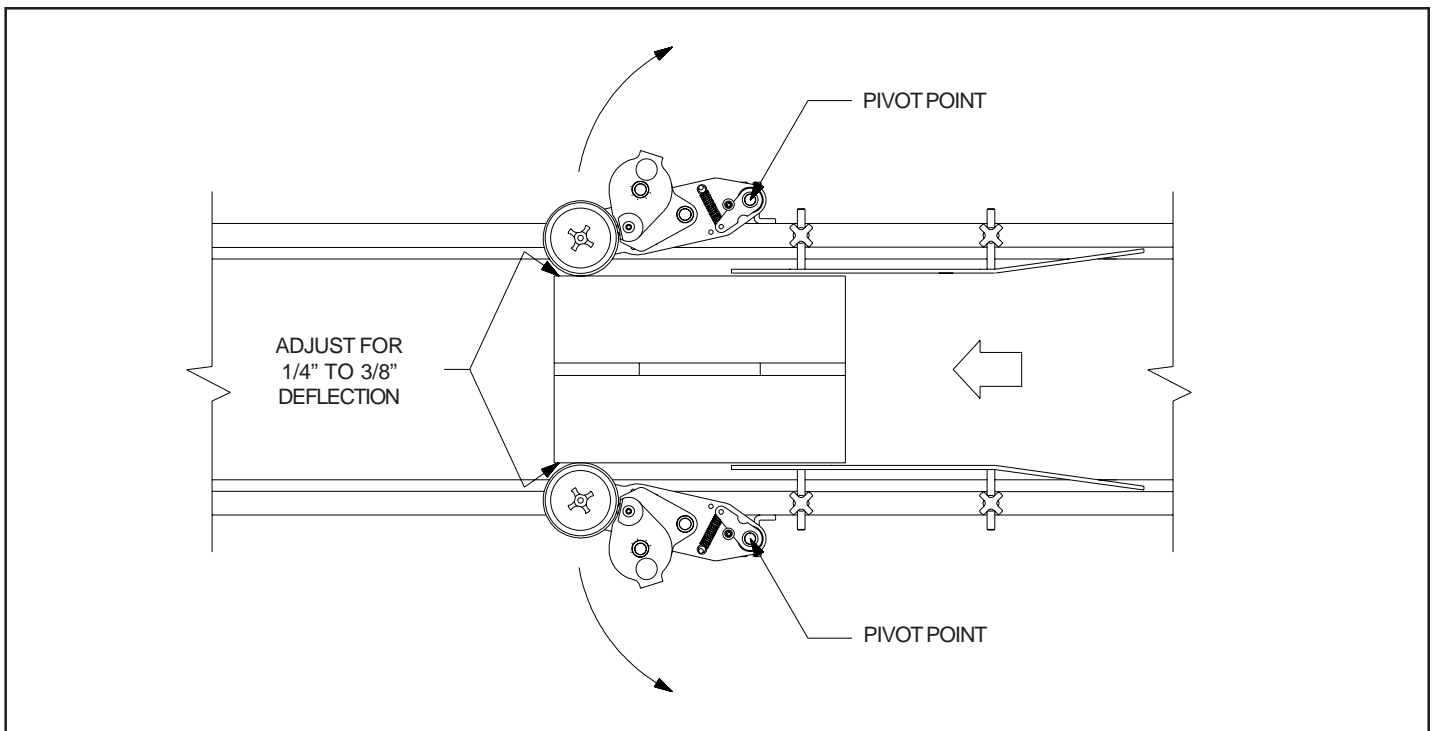

FIGURE 39
- 2 - Check the print drum contact with the cartons while the conveyor is under power and adjust the print drum position to obtain approximately 1/4" - 3/8" deflection as shown in Figure 39.